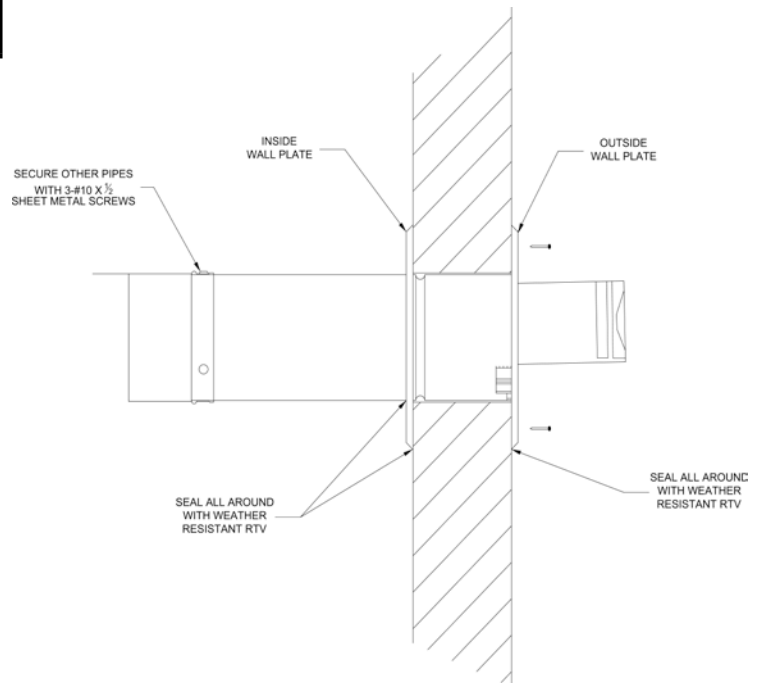

Figure 18: Completing Horizontal (Wall) Terminal Installation
The terminal orientation label is located on the inside of the terminal Outside Wall Plate. Insure the vent terminal is positioned as shown in Figure 18 before securing the Outside Wall Plate to exterior wall.
2. Additionally, secure elbow to boiler vent collar with three evenly spaced #8 x 1/2" sheet metal screws. Use collar rivets as reference attachment points. Mark (center punch) each screw location off each rivet centerline 5/8" towards collar-beaded end. See Figure 18 'Completing Horizontal (Wall) Terminal Installation' for details. Drill 1/8" hole thru both